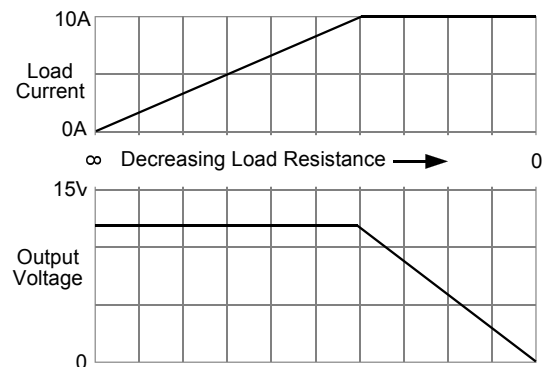
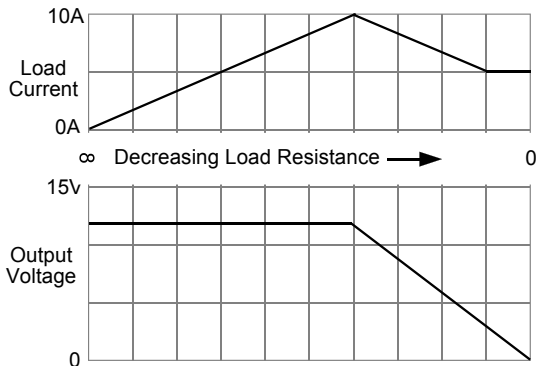

Fig. 6. Straight-line current limiting. Voltage and current vs Load Resistance.
Fig. 7. Fold-back current limiting. Voltage and current vs Load Resistance.
**Current Limiting Characteristics.** Most modern power supplies have a well behaved current limiting function; however, use caution when testing any power supply that you are not sure of. While voltage/current graphs are presented in various ways, I find the plots of Fig. 6 and Fig. 7 the easiest to understand.
**Straight Line Current Limiting.** Fig. 6 shows the voltage and current outputs of a 12 VDC power supply that has a 10 ADC straight-line current limit, also known as constant current limiting.
**Fold-Back Current Limiting.** Fig. 7 shows the voltage and current outputs of the same 12 VDC power supply except with fold-back current limiting that starts at 10 ADC. Again the output voltage is 12V for any load resistance up to an output current of 10A. Similar to straight-line limiting, the output voltage will decrease as the load resistance decreases; however, unlike straight-line limiting, the output current will also decrease from this point until it reaches the minimum fold-back current where it will remain. In this example that value is 5A.